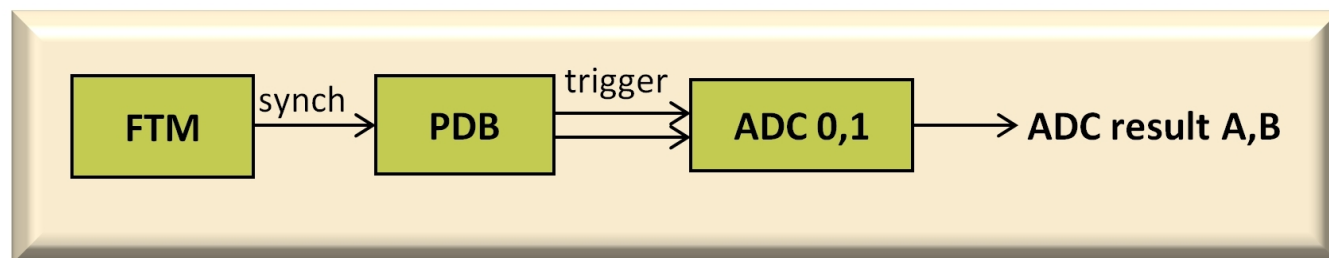

Figure 2. Peripheral interconnection
- With the PDB: If the PDB is used, the sampling can be delayed by a value defined by the PDB. It is allowed to trigger at an arbitrary point or two points, because the ADC includes two result registers. See Figure 2.
The approach of using the FTM and ADC synchronization with the PDB is preferred, especially in the field-oriented control applications, because it has many advantages. Figure 2 simply shows the peripheral interconnection of these three blocks.